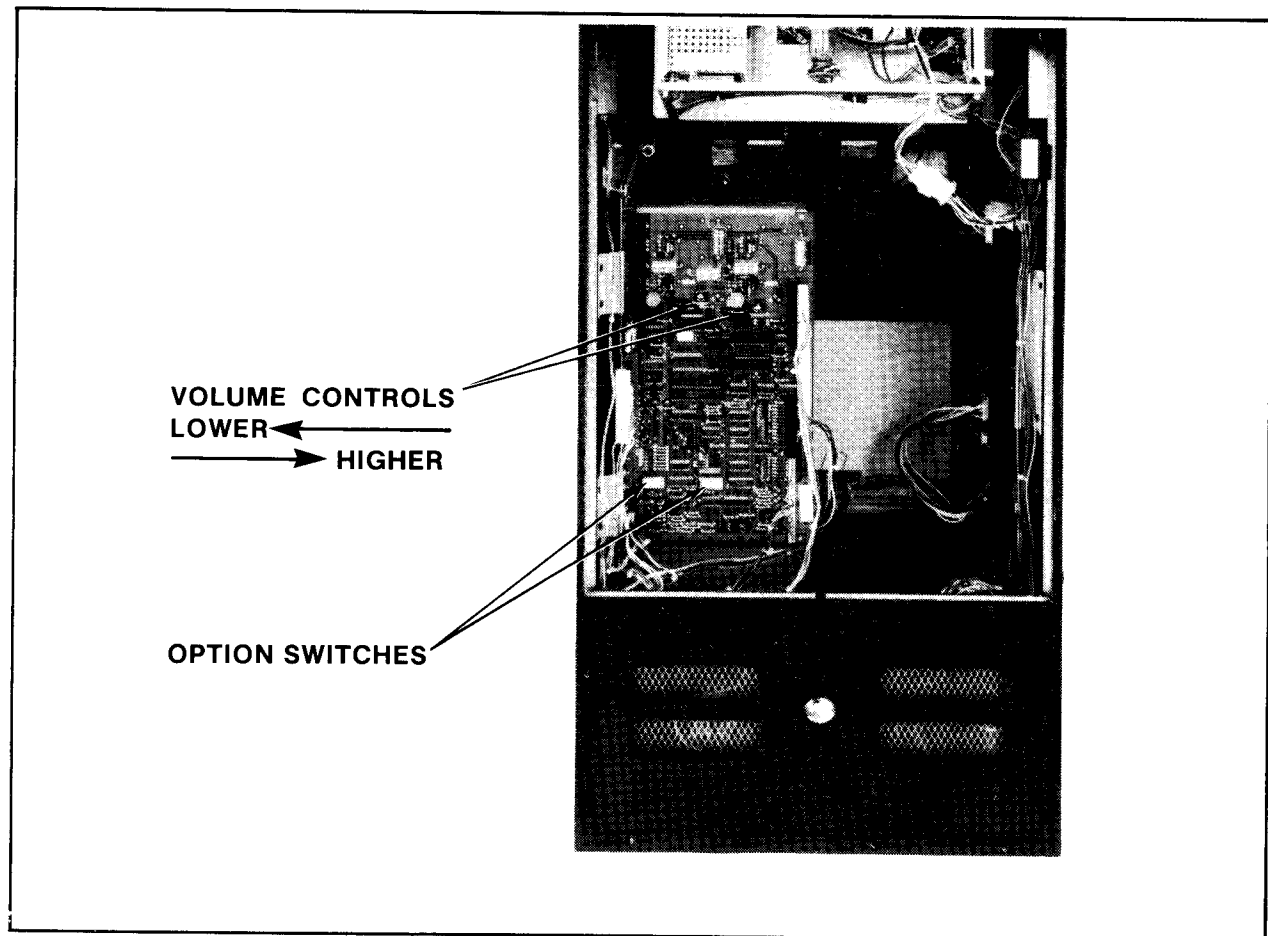

FIGURE 5
E. GAME ADJUSTMENT CONTROLS: See Figure 5.
The option switch settings and what they will make the game do are shown in Figure 6. See Figure 5 for option switch locations.